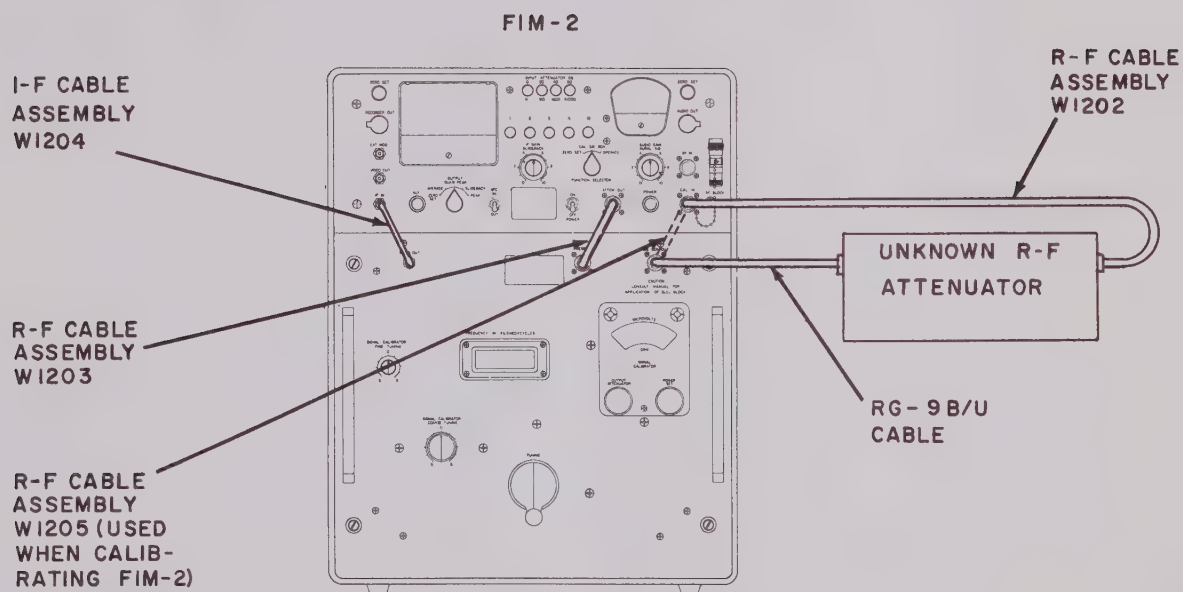

Figure 2-12. Attenuator Measurements Using I-f Substitution Method, Equipment Set Up
b. Connect r-f cable assembly W1205 as a jumper between the SIG GEN OUT jack and the CAL IN jack, as shown in figure 2-12.
c. Connect r-f cable assembly W1203 as a jumper between the ATTEN OUT jack and the PRESEL IN jack, as shown in figure 2-12.
d. Connect i-f cable assembly W1204 as a jumper between the MIXER OUT jack and the IF IN jack, as shown in figure 2-12.
z. Interpose the r-f attenuator under test between the SIG GEN OUT jack and the CAL IN jack, as shown in figure 2-12.
- a. Interpose the r-f attenuator under test between the SIG GEN OUT jack and the CAL IN jack, as shown in figure 2-12.